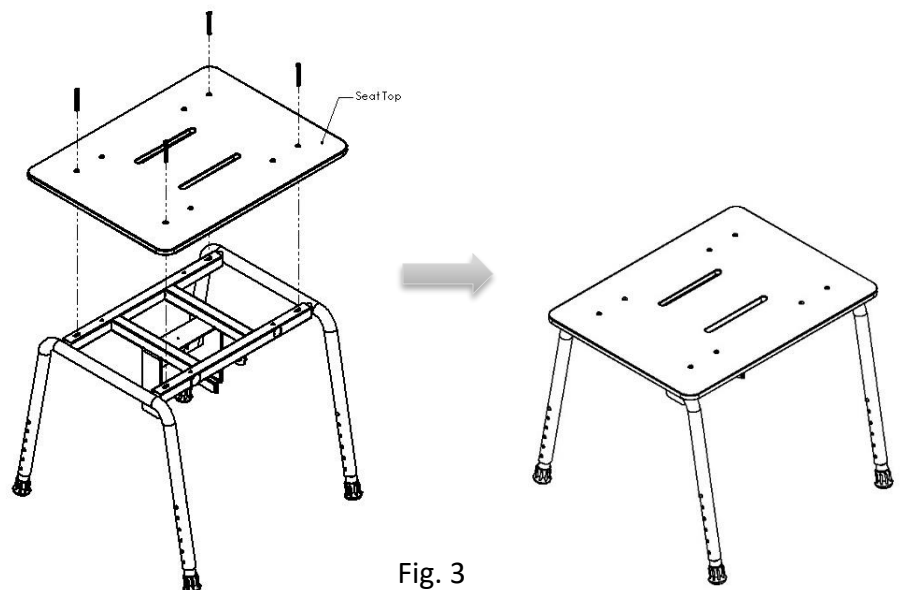

Fig. 3
Place phenolic seat top onto preassembled frame and align all holes. Use (4) 10-24 x 2" Phillips Flat Head Screws (provided) and insert them into the (4) holes of the seat top. (See Fig. 3)